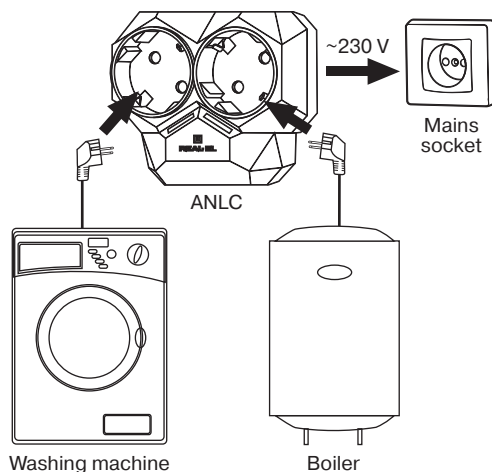

Fig. 2. Tentative connection diagram
- Plug ANLC's power cord ❶ into a standard socket of the home power supply system 230 V/50 Hz (see the tentative connection diagram in Fig. 2). Indicators ❷ and ❸ active.
- Connect one of household electric appliances to the second socket ❹ the operation of which is uncritical to the short-time power supply failures (for example, electric water heater, electric convector, floor heating electrical system etc.).
- Connect an electrical device to the "Priority" socket ❺, the operation of which is required at the moment and the power supply failure to which is inadmissible (for example, automatic washing machine and dishwashing machine, electric pump of the water supply system, electric kettle, microwave oven, hair dryer etc.).
- If a device connected to the "Priority" socket ❺ consumes more than 100 W, the power supply to the second socket ❹ is disconnected automatically. At that, the indicator ❸ is not active. The power supply to the second socket is recommenced automatically after 2 seconds after power reduction consumed by a device plugged in the "Priority" socket below 100 W (sleep mode, timer mode etc.). When the device connected to the "Priority" socket starts to operate at full capacity, the cycle recurs once again.
- Example of ANLC operation is given in Fig. 2. A washing machine plugged in the "Priority" socket is preset in the timer mode. While the timer of the washing machine does not start the washing mode, the water heater plugged in the second socket will continue to operate. As soon as the washing machine starts to operate, the second socket will be disconnected until the washing process is over (when the second socket is disconnected, indicator ❸ is not active).